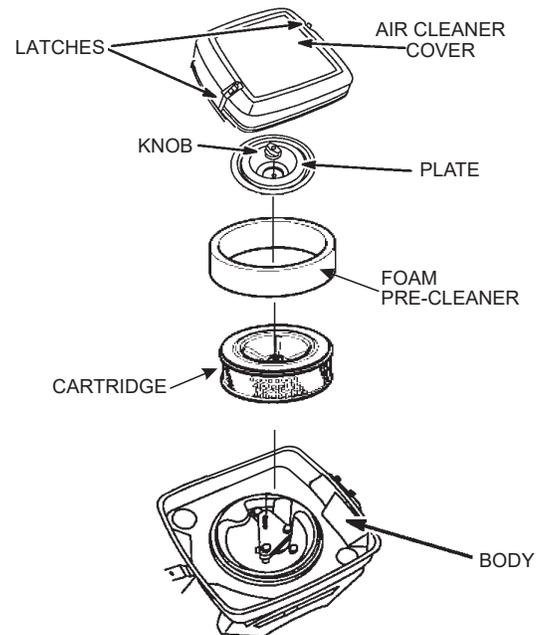

Figure 30. Air Filter Components
1. Release the latches (Figure 30) on each side of the air cleaner cover and remove the cover.
2. Remove the knob and the plate (Figure 30).
3. Remove the foam pre-cleaner and cartridge (Figure 30) carefully to prevent dirt and debris from entering the carburetor.